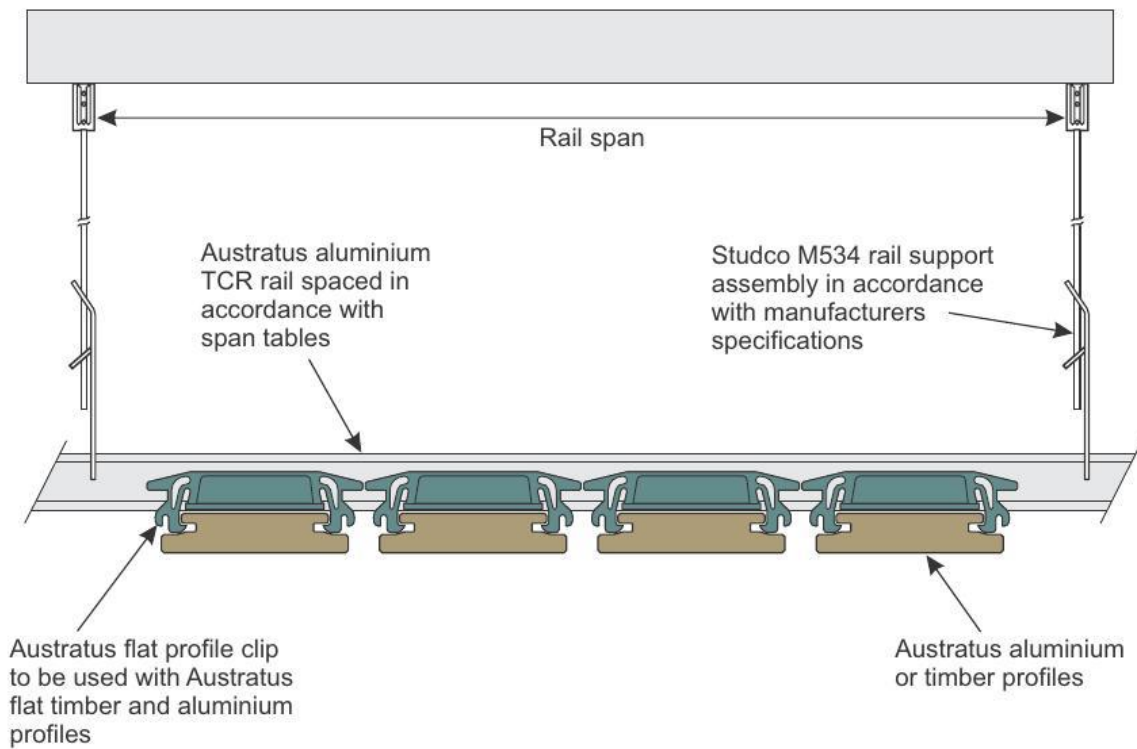

Figure 4.4: Flat profile dimensions and clip engagement
- Dowel: rounded profiles with a soft texture. Centre-to-centre spacing is measured profile-to-profile (see Figure 4.4).